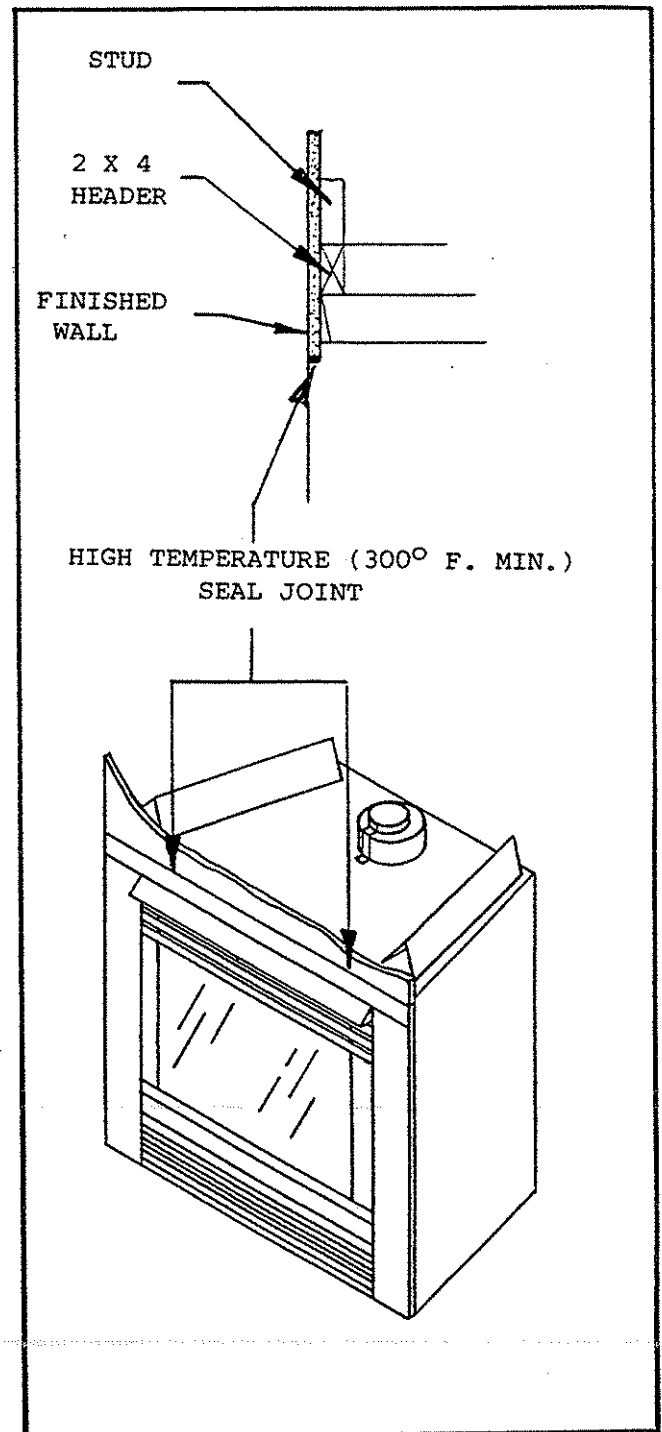

FIGURE 14
**CAUTION:** ALL JOINTS BETWEEN THE FINISHED WALL AND THE FIREPLACE SURROUND (TOP AND SIDES) CAN ONLY BE SEALED WITH A 300°F (149°C) MINIMUM SEALANT MATERIAL. ONLY NON-COMBUSTIBLE MATERIAL, USING A 300°F (149°C) MINIMUM ADHESIVE IF NEEDED, CAN BE APPLIED AS FACING TO THE FIREPLACE SURROUND. SEE FIGURE 14.